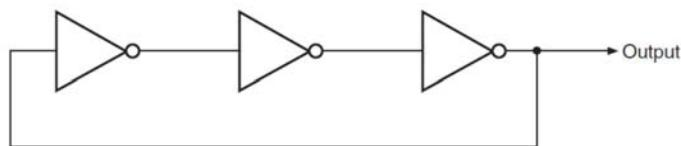

Figure 1
- 1) Using two 74LS04 ICs, cascade 9 inverters on the breadboard and form a ring oscillator as shown in Figure 1 (page 4). The pinout of 7404 is shown below.
- 1) From the datasheet of the inverter ICs (both TTL and CMOS), find the value of the propagation delay and compare it with the result you obtain in parts (1) and (2). Print the page of datasheet that contains the delay values and attach it to your report.
- 4) Consider the configuration in Figure 1 with an *even* number of inverters. What will be the output waveform in this case? Can you suggest a method to measure the gate propagation delay using this configuration?